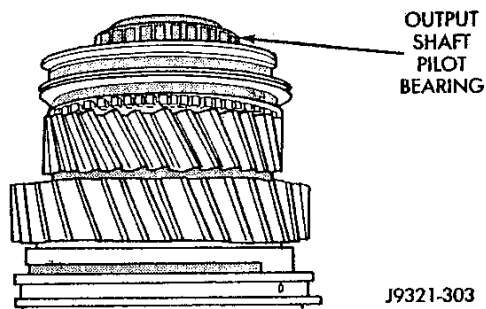
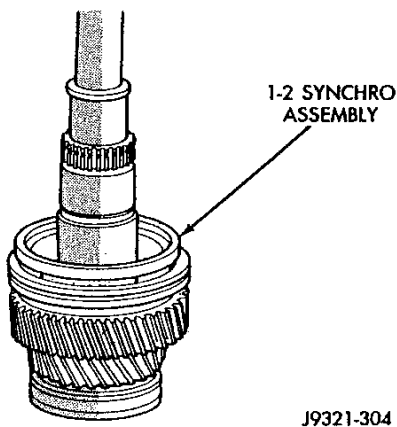

Fig. 41 Output Shaft Pilot Bearing Installation
Fig. 42 Installing 1-2 Synchro Assembly
(9) Install pilot bearing on output shaft (Fig. 41). Heat bearing in oven to ease installation, or use suitable tool to tap bearing into place.
(10) Turn output shaft over so rear of shaft is facing upward.
(11) Install 1-2 synchro assembly (Fig. 42). If new synchro is being installed, it can be installed ei-